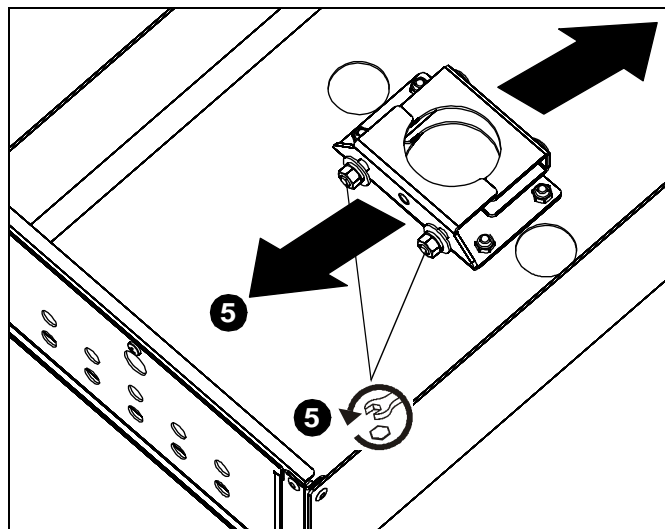

Figure 3
5. Loosen carriage bolts and open clamp bracket. (See Figure 3)